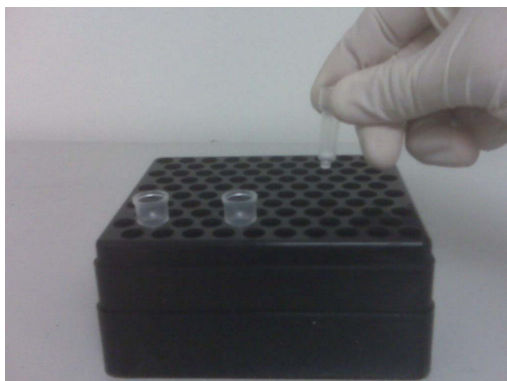

Figure 4: Using the ChIP Filtration Columns.
9. Label a ChIP Filtration Column for each ChIP reaction. Remove the tab from the bottom of the column and place in an empty 1 ml pipet tip box as a holder (see Figure 4 below).